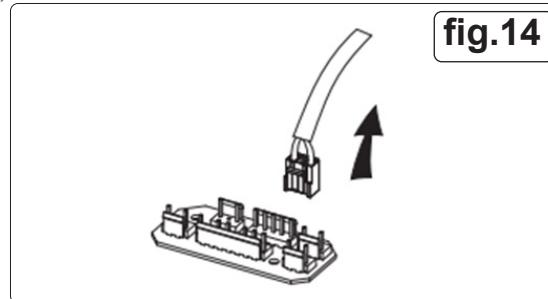

fig.14
- Locate the terminal of the light connecting wire and then disconnect. (See fig.14).